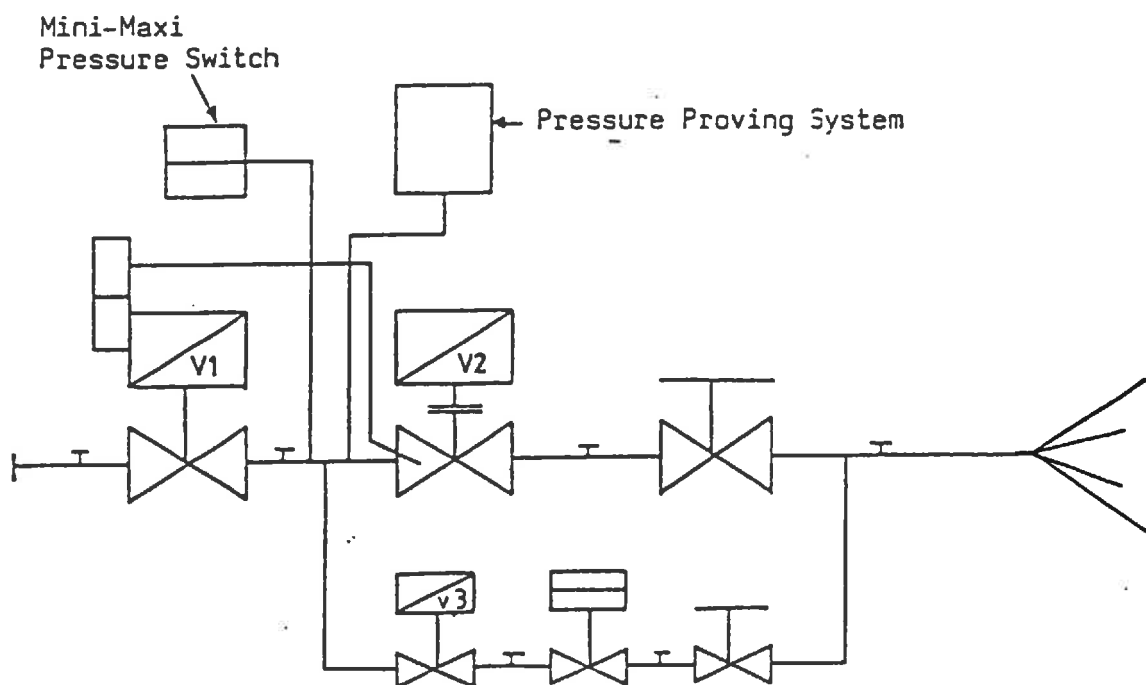

Fig. 5.
5.2.1 PRESSURE PROVING SYSTEM FIG. 5.